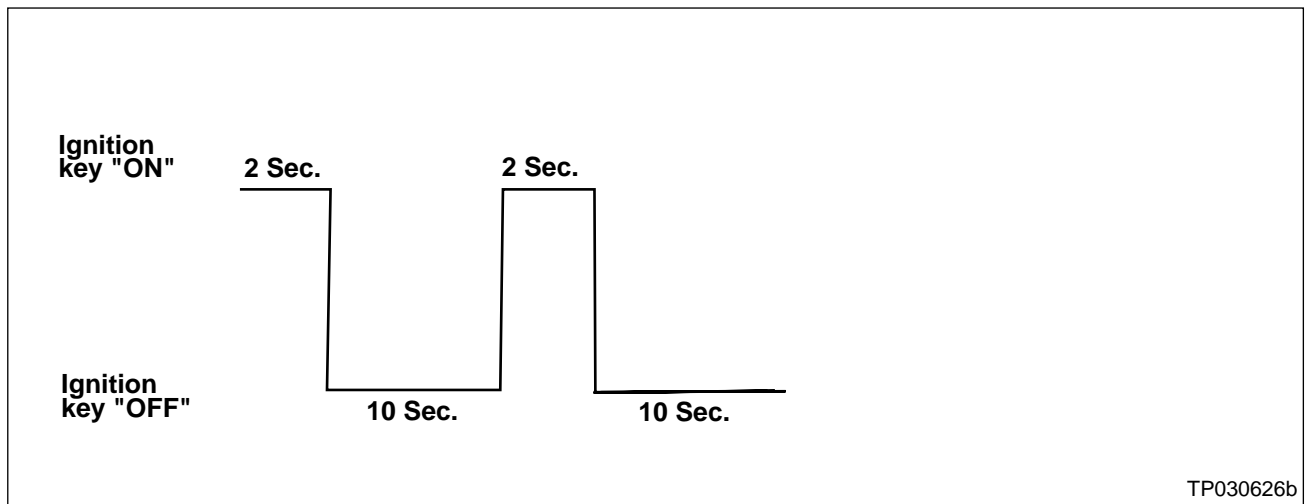

Figure 6
- b. Turn the ignition switch "OFF" again for 10 seconds (see Figure 6).